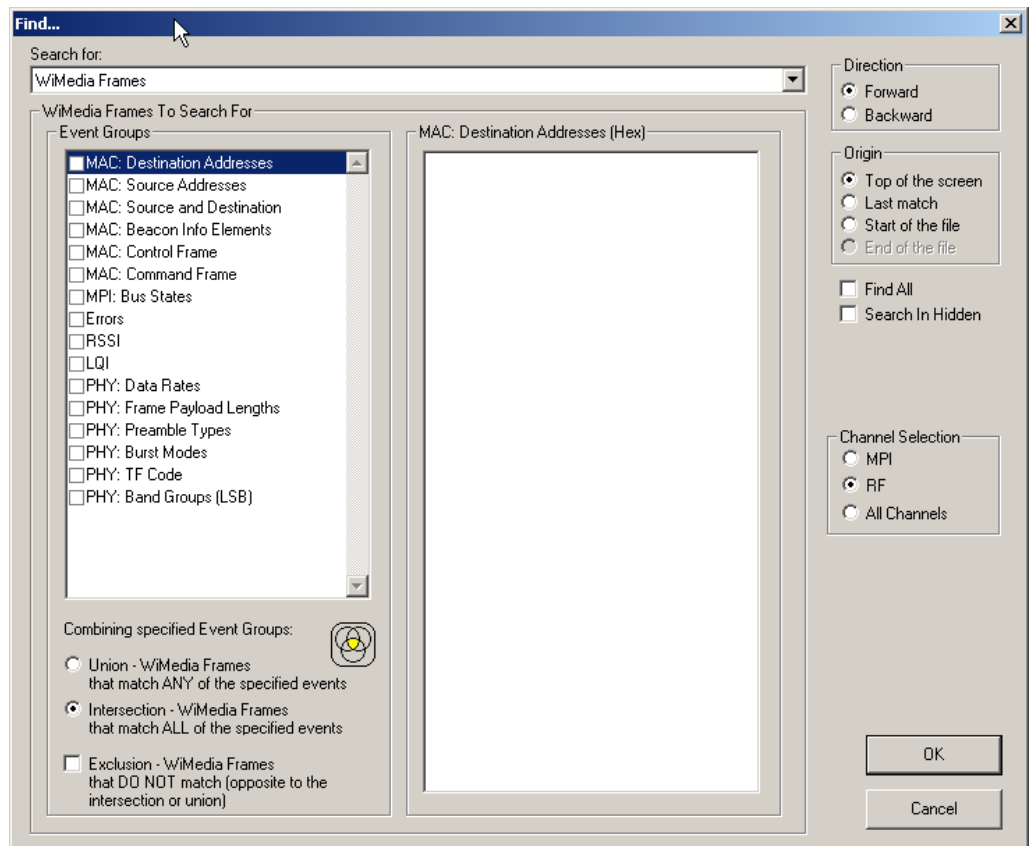
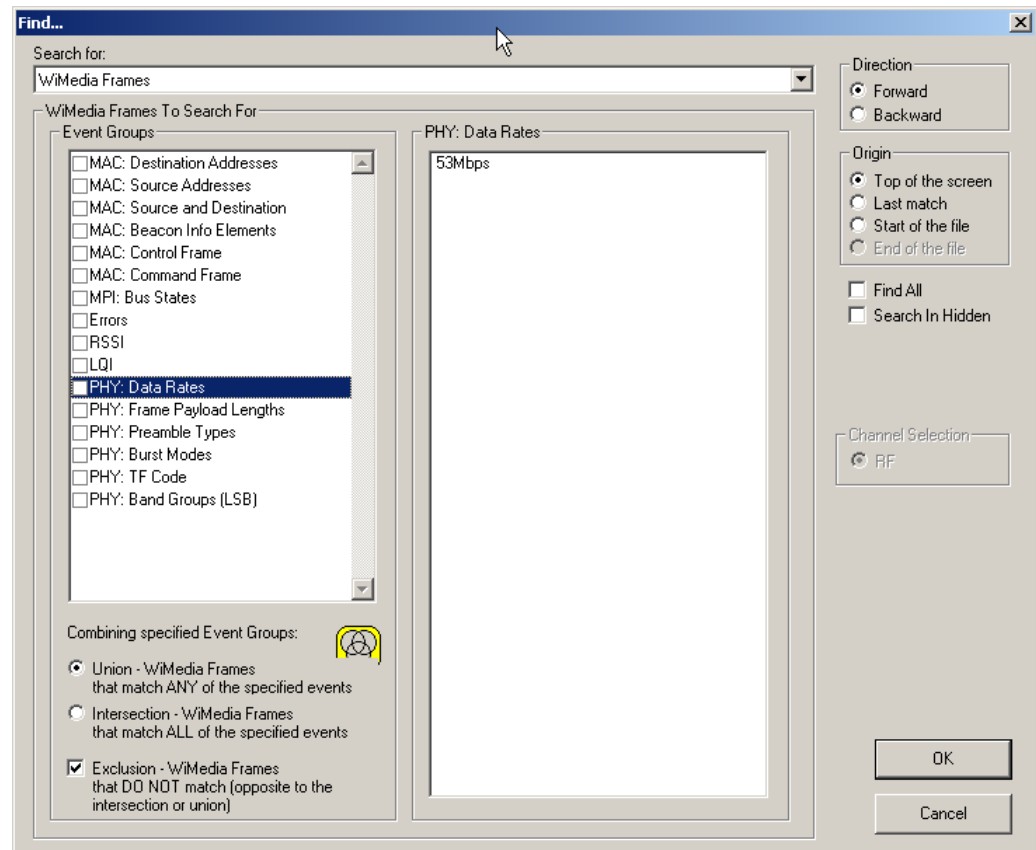

Figure 5.12 Find Window, Frames Checkboxes
Figure 5.17 Find Events Window: PHY Data Rates Active
Step 2 Select a frame or packet number from the listed markers. Alternatively, select **All Markers** to open the All Markers dialog box (see figure 5.17, “All Markers Window”), select a marker, and then click **Select**.
You see the Find window (Figure 5.12).
The central area provides further selection criteria for the Event Group active in the Event Groups pane. For example, in Figure 5.12, the MAC Destination Addresses Event Group is currently active (selected). The context area lets you select a range of MAC addresses. In Figure 5.17, the PHY Data Rates is the active Event group. A different display appears in the context area.